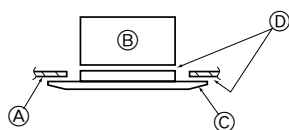

Fig. 8-7
8.3.3. Securing the grille (Fig. 8-7)
- (A) Ceiling